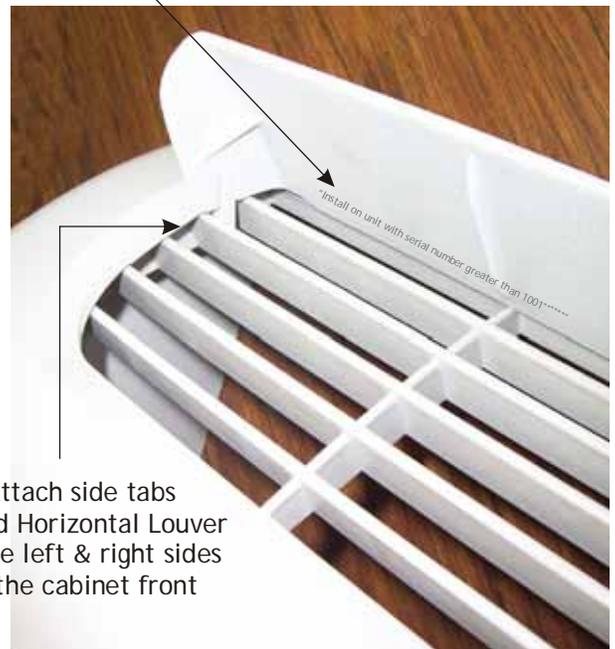

Figure 1
1. Check the underside of the guard next to the side tab for specific guard/unit compatibility statement. See Figure 1 for location of this statement:
1. Position the curtain guard over the cabinet front (tab side down) so the left and right side tabs on the guard line up with the 2nd horizontal louver on each side of the cabinet front. Make sure the 2 middle tabs on the curtain guard are positioned over the 2nd and 4th vertical louvers on the cabinet front. Gently snap the left side of the curtain guard onto the 2nd horizontal louver of the cabinet front and then gently snap the tab on the right side of the cabinet front into place. See Figure 1. **DO NOT FORCE CURTAIN GUARD INTO PLACE.**